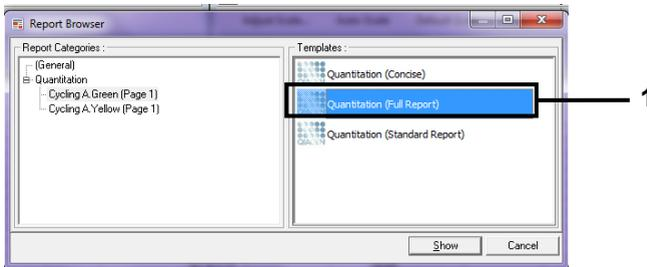

Figure 25. Quantitation report (Full Report) (1).
21. Select **Quantitation (Full Report)** in the **Templates** section (Figure 25).